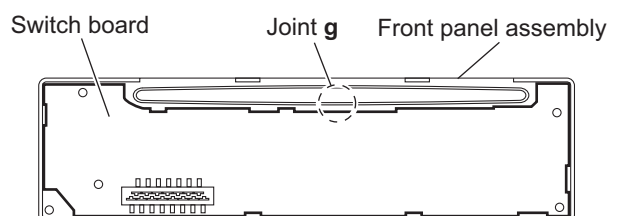

Fig.10
- (3) Release the joint **g** and take out the switch board from the front panel assembly. (See Fig.10)
3.2.5 Removing the clamper assembly (See Figs.10 and 11)